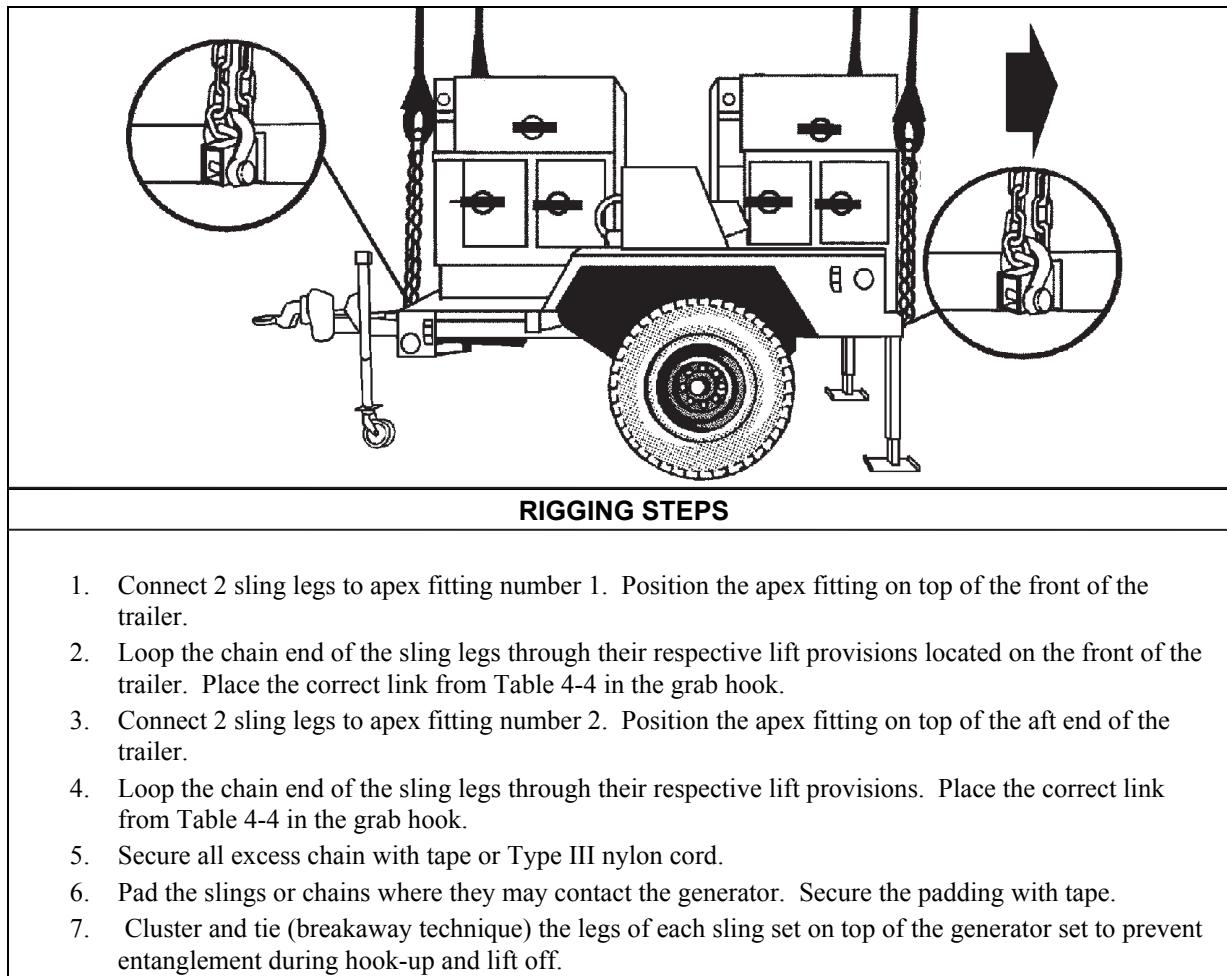

Figure 4-4. High Mobility Trailer with AN/MJQ-35A Power Unit
- **Rigging.** Rig the load according to the steps in Figure 4-4.